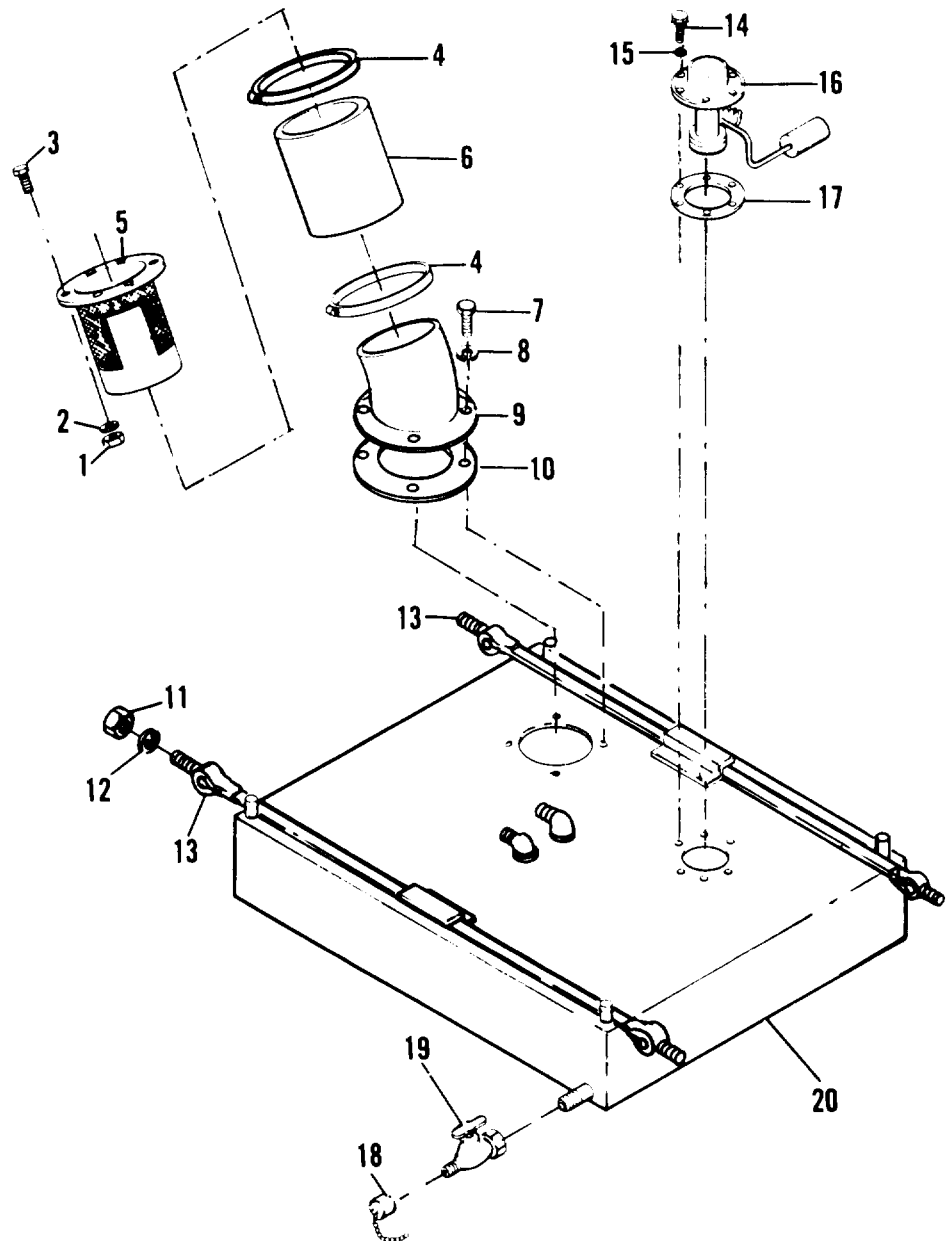

Figure 3-18. Main Fuel Tank (Metal), Removal and Installation
- (1) Refer to the Operator and Unit Manual and accomplish the following:
- (2) Remove nut (1, figure 3-18), lockwasher (2), screw (3), clamps (4), filler neck (5), and hose (6).
- (3) Remove screws (7), lockwasher (8), adapter (9), and gasket (10).
- (4) Remove locknut (11), and flatwasher (12), from strap (13).
- (5) Remove screws (14), lockwasher (15), fuel level switch (16), and fuel level switch gasket (17).
- (1) Position metal fuel tank (20, figure 3-18) to install drain valve (19) and cap (18).
- (2) Install new fuel level switch gasket (17), fuel level switch (16), lockwasher (15), and screws (14).
- (3) Position strap (13), to install flatwasher (12), and locknut (11).
- (4) Install gasket (10), adapter (9), lockwasher (8) and screws (7).
- (5) Install hose (6), filler neck (5), clamps (4), screws (3), lockwasher (2) and nut (1).
- (6) Refer to the Operator and Unit Maintenance Manual and accomplish the following: